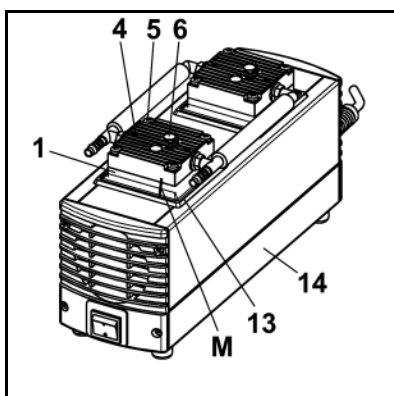

Fig. 4: Removing pump heads
1. At both pump heads: Mark the position of head plate (Fig. 4/4), intermediate plate (1), cover (13) and housing (14) relative to each other by a drawing line (M) with a pencil. This helps avoid incorrect assembly later.
2. At both pump heads: Undo the 4 screws (5) in the head plate (4).
3. Remove both pump heads (each consisting of a head plate (4) and intermediate plate (1)) together from the pump housing (14).
i It is necessary to ensure that the O-ring (fig. 4/9) lies on the end of the connecting tube.